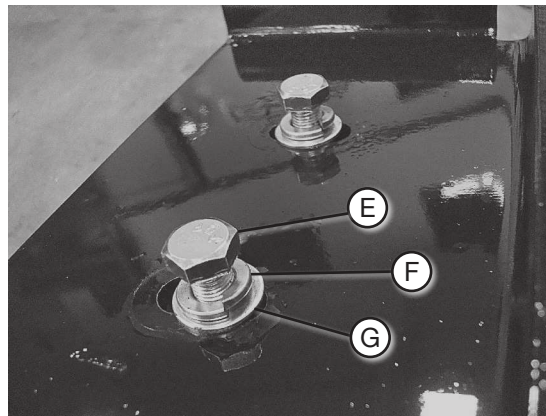

fig. D.5
2. Flip the assembly over and set a roll plate (D) on the bottom of the air spring. Install the lower bracket onto the assembly, making sure the flange of the lower bracket is on the fitting side of the air spring assembly. Attach the lower bracket with two 3/8"-24 x 7/8" hex cap screws (E), 3/8" lock washers (F) and 3/8" flat washers (G) (Fig. D.5). Torque the mounting hardware to no more than 20 lb.-ft. (27 Nm).